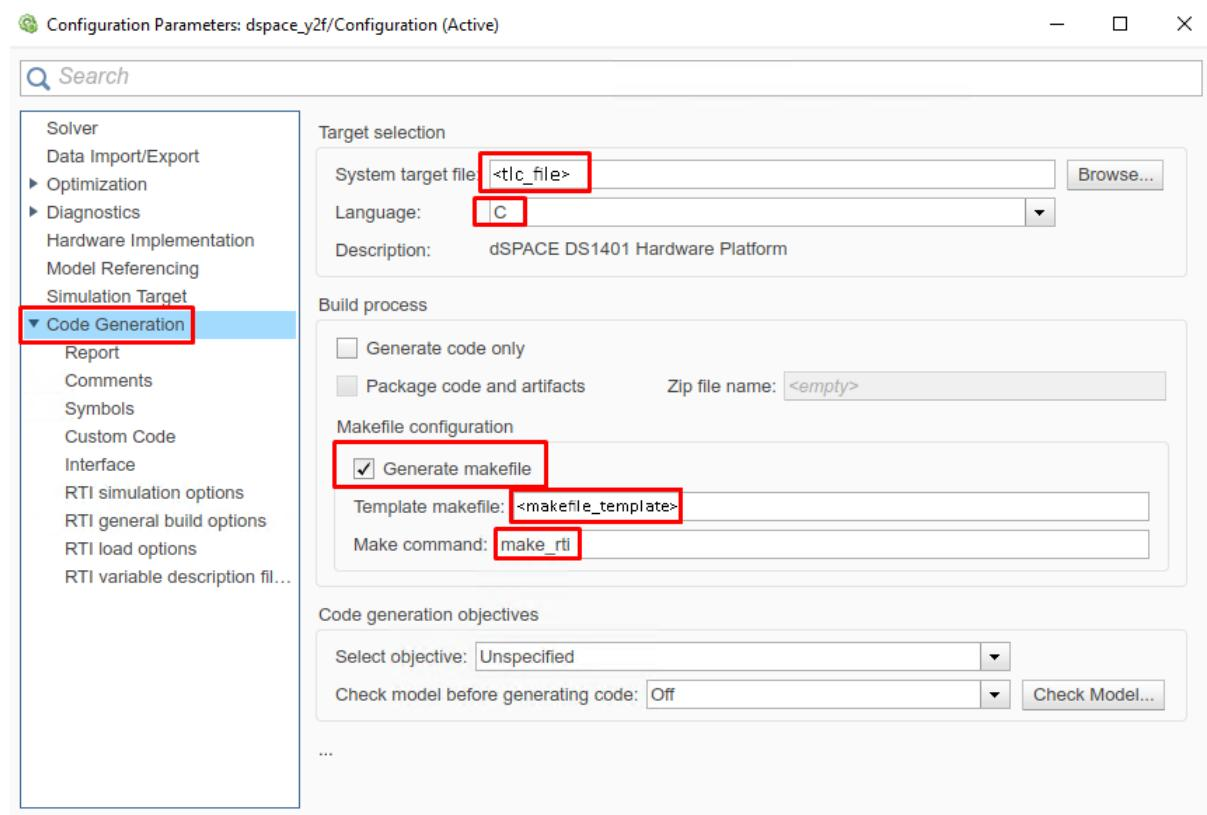

Figure 13.23: Set the Simulink code generation options.
- (Figure 13.23) In the “Code Generation/RTI general build options” tab, set the options (for `<t1c_file>` and `<makefile_template>` see Simulink Model HW Target Configuration):